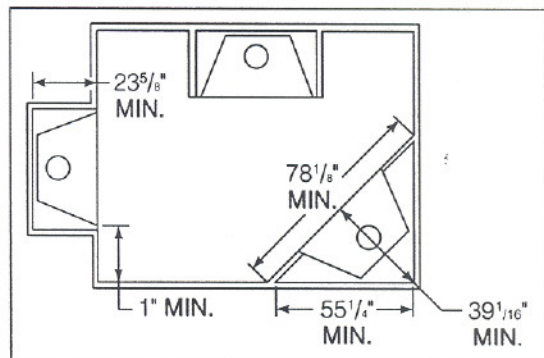

Figure 2
The G420E(LE) or GC420E(LE) gas appliances can be installed in a wide variety of ways and will fit nearly any room layout. It may be installed in a recessed position, framed out into the room, or across a corner. The appliance may be installed at a height level with the floor, or it can be raised up from the floor to enhance its visual impact. Figure 2 illustrates a variety of ways the appliance may be located in a room.
Proper clearances to combustible sidewalls, as illustrated in Figure 2, must be maintained.